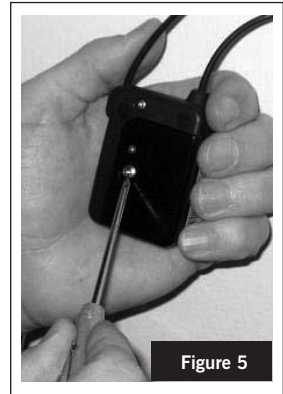

Figure 5
1. Using a #1 size Phillips head screwdriver, unscrew the crosshead screw on the battery door (see figure 5).